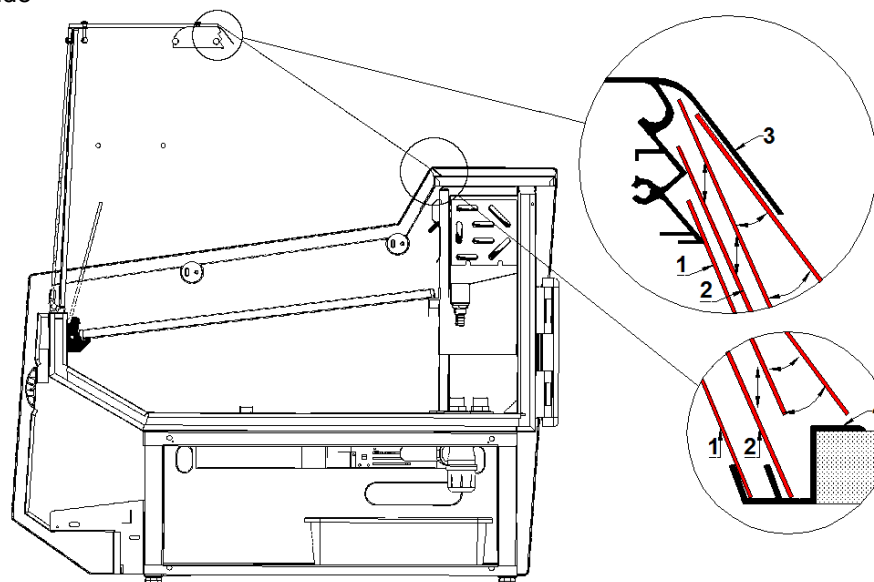

Fig. 5 Assembly / disassembly of the night blinds
8. Install the night blinds Fig. 5 \(p.8\)